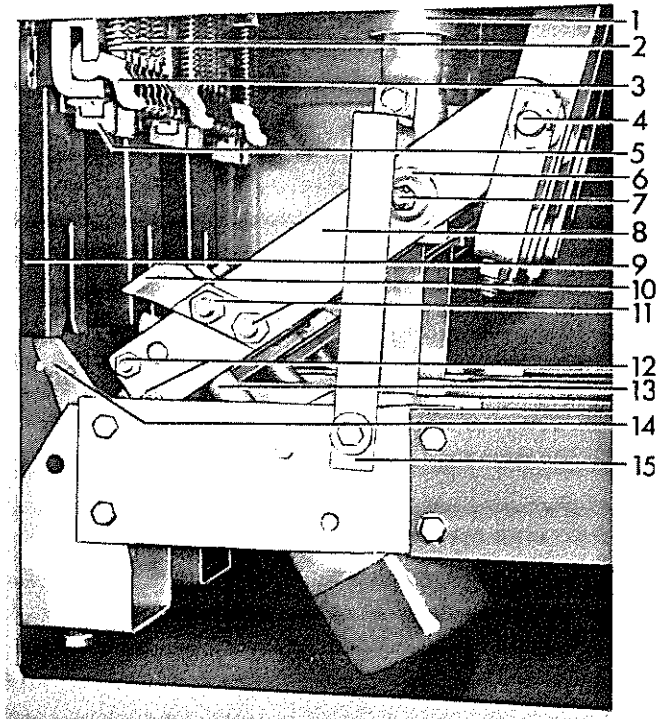

Figure 23. (8039588) Contact Assembly
1. Disconnect the contact braids (7) from the contact fingers by removing two bolts and locking plates (8).
3. To disassemble braids from stud plate remove one bolt (5).
4. To disassemble stud plate from contact support, remove two bolts (6).
5. Reassemble in the reverse order, make sure locking plates are properly re-assembled with bolts (8).
### B. Movable Arcing Contact (14) Figure 23.
1. Remove the assembly bolts (12) making note of quantity and location of shims and spacers used between contacts and contact arms.
3. Close the breaker slowly to check that the movable arcing contact is approximately centered on the stationary arcing contact and that it does not rub on either side of the throat barrier (9).
#### D. Movable Primary Contacts (10) Figure 23.
E. Contact Arm Assembly (8, 10, 12, 14, Figure 23).
1. Remove connection bar (15).
2. Disassemble hinge pin (7), cup bearing (6), and operating rod pin (4) noting quantity and location of any washers and spacers used in assemblies.
3. The contact arm assembly including the piston assembly (13) can now be removed.
4. When reassembling, first insert piston tube assembly (13) into the booster cylinder and reassemble the cup bearing, making sure the silvered contact washers between the bushing and contact arms (both sides) are in place.
5. Reassemble operating rod pin (4) and connection bar (15).
3. Remove the connection bar (15) Figure 23, cup bearing (6) and hinge pin (7).
5. When reassembling, first mount the bushing and assemble the cup bearing (6), contact arm (8), and replace pin (7) being sure the silvered contact washers between the bushing and contact arms are in place. The contact surfaces at the hinge point of the contact blade and bushing should have a thin coating of D50H47 grease.